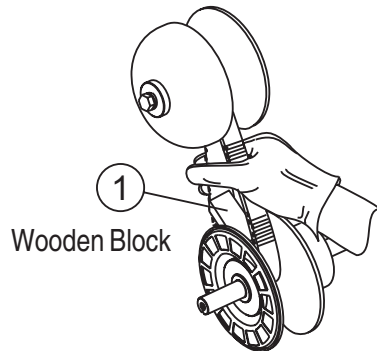

Figure 19. Holding Lower Pulley Open
3. **Insert** the 3/4" X 1" X 3-1/4" block between the moveable face and the fixed face of the lower drive pulley. See Figure 19. This block will help keep the lower drive pulley faces open while installing the new drive belt.